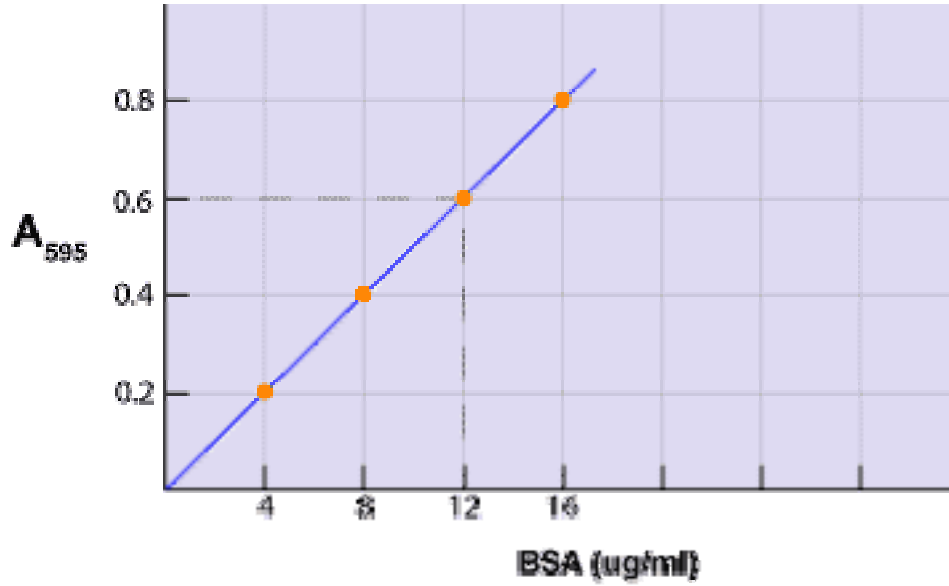

Figure 3.1. Sample Bradford Assay Standard Curve.
found in a type of sugar known as a β -galactoside. Like the Bradford assay, the β -galactosidase assay is a colorimetric assay. In vivo, the substrate is lactose which is cleaved into glucose and galactose, both of which are colorless. For the assay, we use a substrate, ONPG, that produces a colored product when cleaved. (Figure 3.1) The amount of enzyme activity is measured by the appearance of a yellow product that is produced when the substrate is cleaved. If there is activity in the sample, the solution will turn from clear to yellow as the enzyme does its job.
11. **PREPARE THE STANDARD CURVE.** Generate your standard curve by graphing the absorbance readings of your diluted BSA standards as a function of the protein concentration. The x-axis should be labeled “BSA ($\mu\text{g}/\mu\text{l}$)” and the y-axis “ A_{595} ”. See Figure 3.1 below.
- After performing the Bradford assay, make a graph by plotting the spectrophotometer absorbance readings vs. the concentration of each of the BSA standards. Draw a straight line through the points. If all the points do not lie on a line, draw a line of best fit. A sample standard curve is shown in figure 3.1 above.